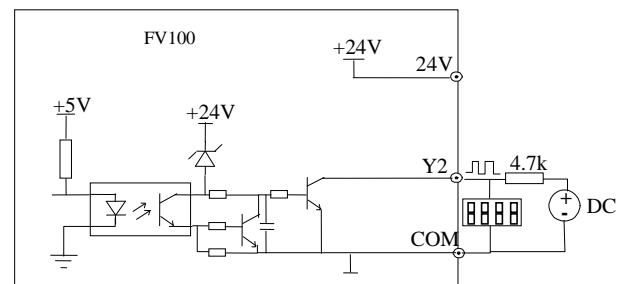

Fig.4-16 Wiring method 2 of output terminal Y2
4. When Y2 is used as a digital pulse frequency output, it can also use the external power supply. The wiring is shown in Fig.4-16